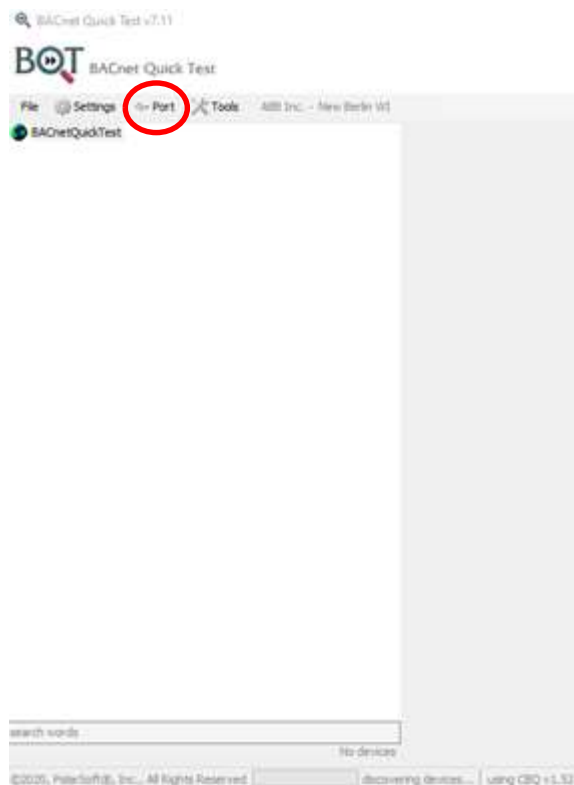
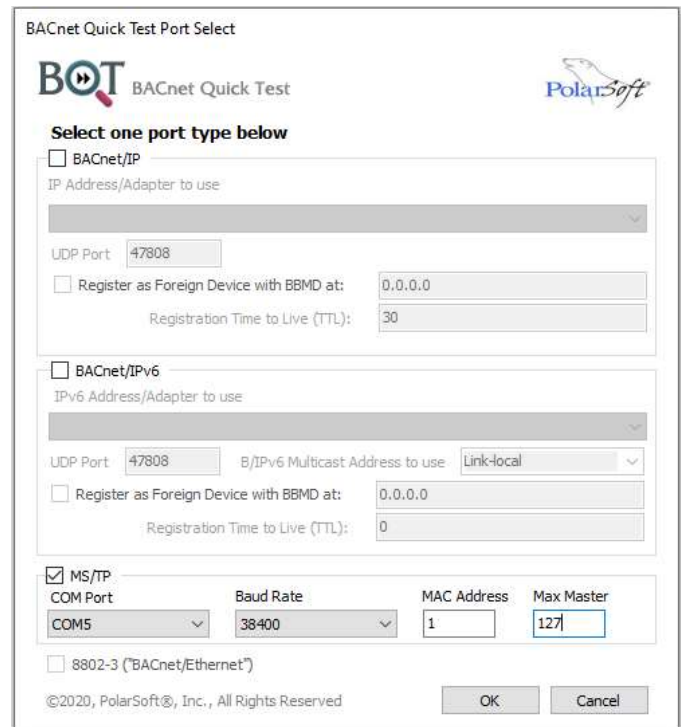

Figure C1
Figure C2
The image in Figure C1 should appear on your screen when the program opens.
Steps 1 - 7 references Figure C1 and Figure C2.
1. Click on *Port* on the main header, and Figure C2 will appear.
3. Adjust the *COM Port* to match the setting in “*Device Manager*”, see Figure C2.